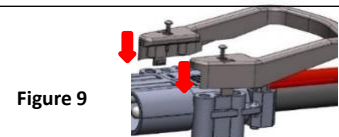

Figure 9
10. Install the optional handle on the top (polarity mark side) of the housing (Figure 9):